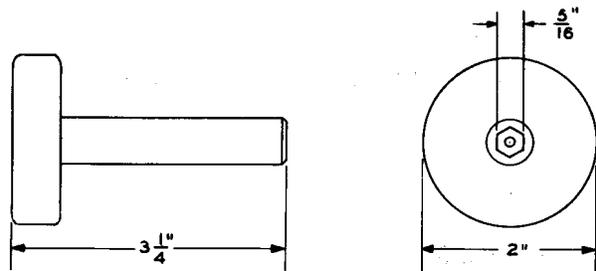

Fig. 8—220B Hex, Single-End Socket Wrench
2.08 **220B:** The 220B tool (Fig. 8) is equipped with a 5/16-inch socket. The 220B wrench is used on the 214A selectors of 1-type translators in the No. 4A Toll System.